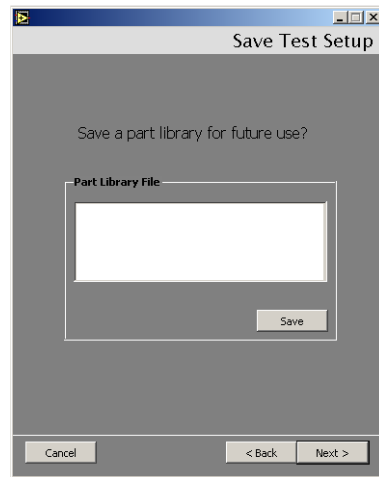

Figure 2-14 Save Test Setup
13. Click **Next** and Figure 2-14 appears.
15. Navigate to the required directory and enter a *File Name* and click **Save**. Figure 2-14 reappears with the file name and path populated into the *Part Library File* field.